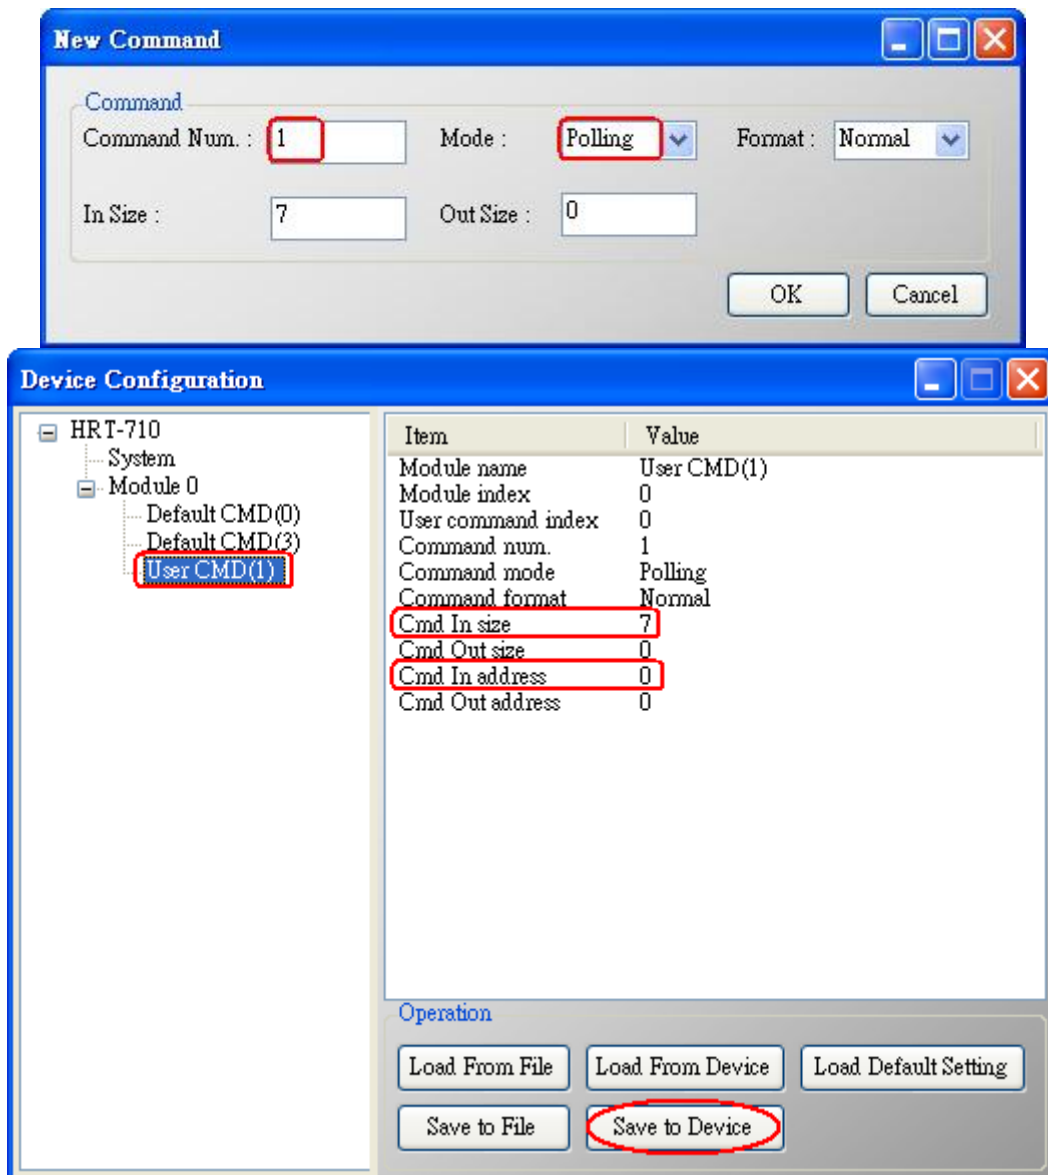

Figure 5-1 Add "User CMD(1)" of HART device to HRT-710
(1) By using “HG_Tool” to add “User CMD(1)” of HART device and save settings to HRT-710. The Modbus start address and length of the “User CMD(1)” will show in the “**Cmd In address**” and “**Cmd In size**” field like Figure 5-1. In the example they are 0 and 7 (byte count=7 => word count=4).